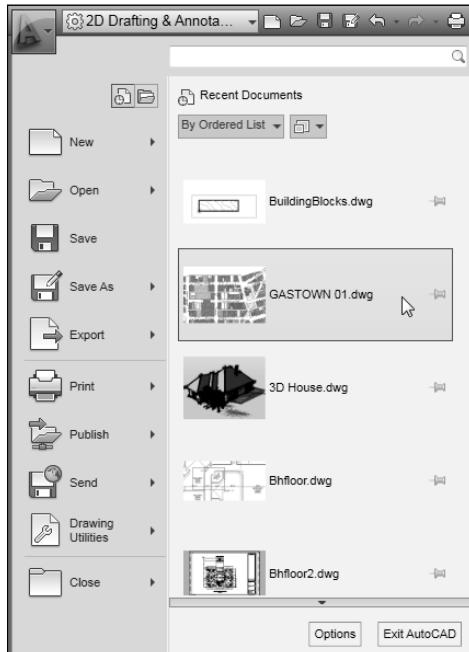

Figure 2-3:
- ✓ **Recent Documents:** If you choose this option, the right pane displays a list of drawings you've recently edited but that aren't currently open. You can show them in a simple list or as thumbnail images, as shown in Figure 2-3. You can also pin them to stop them from scrolling off the list. Naturally enough, clicking one of the icons opens the drawing.